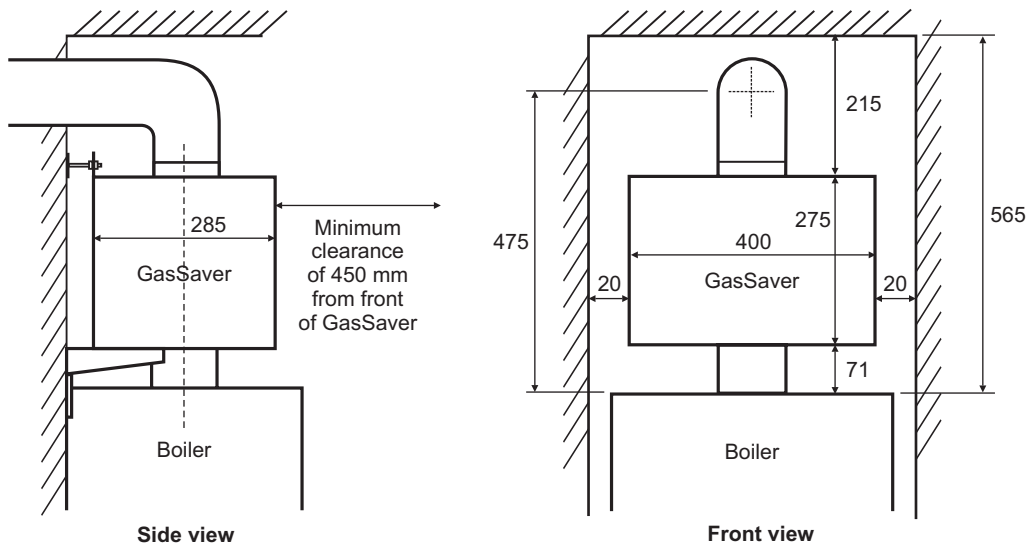

Fig. 6
5.2 MINIMUM CLEARANCES REQUIRED - Fig. 6
2. Before commencing installation, it is important to ensure that there is adequate clearance above the boiler to accommodate both the GasSaver and flue kit. Refer to Fig. 6.